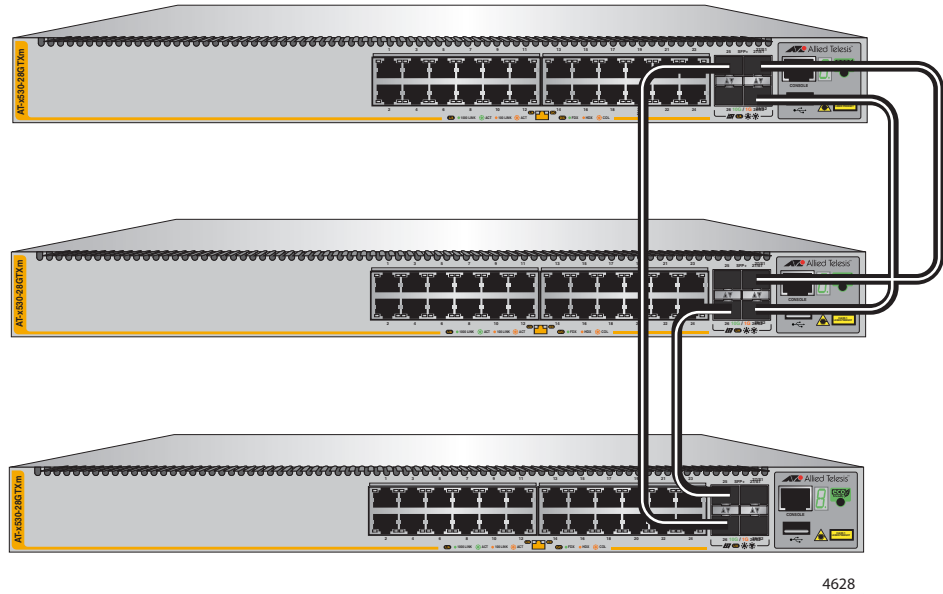

Figure 28. Invalid Stack Trunk with Different Numbers of Links
**Example 3** Trunks must have the same number of physical links between switches. Figure 28 is invalid because the top and middle switches are connected with two links while the top and middle switches are connected to the bottom switch with only one link each.